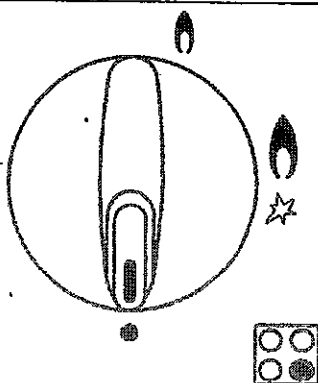

FIG. 1
Push and turn the knob corresponding to the required burner in an anticlockwise direction until it reaches the full on position (large flame fig. 1), then place a lighted match near the burner.
Push and turn the knob corresponding to the required burner in an anticlockwise direction until it reaches the full on position (large flame fig. 1), then depress and release the ignition button "E".
Push and turn the knob corresponding to the required burner in an anticlockwise direction until it reaches the full on position (large flame fig. 1), then depress the knob.
The knobs of burners equipped with flame failure device must be turned in an anticlockwise direction until they reach the full on position (large flame fig. 1) and come to a stop. Now depress the knob in question and repeat the previously indicated operations.
- When the pan comes to the boil, set the knob to the reduced rate position (small flame fig. 1).
- *Burners with flame failure device may only be ignited when the relative knob has been set to the Full on position (large flame fig. 1).*
- Switch on the burner and turn the relative knob to the "Reduced rate" position (small flame fig. 1).